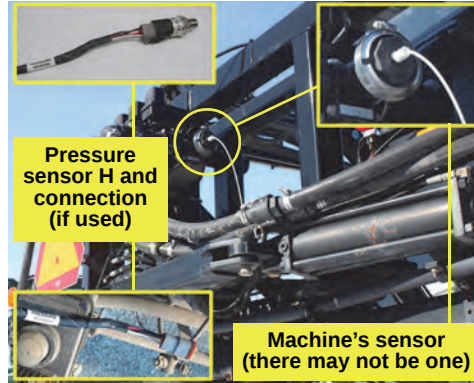

Figure 2: Pressure sensor switch(es), location and cable
1. This step always applies if your machine already has a pressure sensor. If your machine does not have a pressure sensor **either** dust/weatherproof A's "PRESSURE SENSOR" connector and stow it securely **or**, in a suitable location, install the supplied sensor **H** and connect it as described below. Figure 2 shows a connected needle pressure gauge installation. Using a run tee (not supplied) you can install the supplied pressure sensor with the needle gauge.
Locate the pressure sensor (if installed—see note preceding) to the right of the section valves. Disconnect the machine's harness connector and remove the pressure sensor. Install pressure sensor **H** and connect cable **A**'s connector labeled "PRESSURE SENSOR" using extension cable **F** (Figure 2 with insets and Appendix).